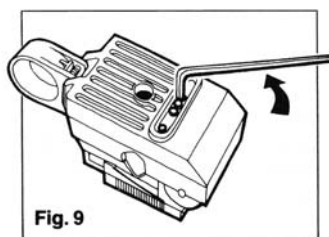

Fig. 9
I. Adjust blade depth to match your cable size by turning allen screws at base of tool. (fig. 9).